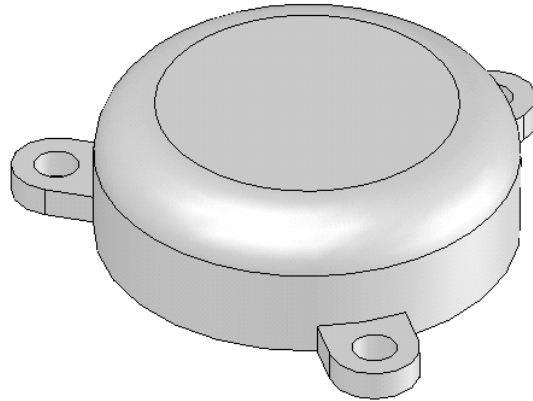

Figure 9-70 The edited pattern feature
- Edit the circular pattern, refer to Figure 9-70.
The model, after editing the features, is shown in Figure 9-70.